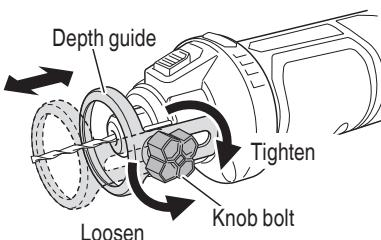

Fig. 11
1. Adjusting the depth of cut (Fig. 11)